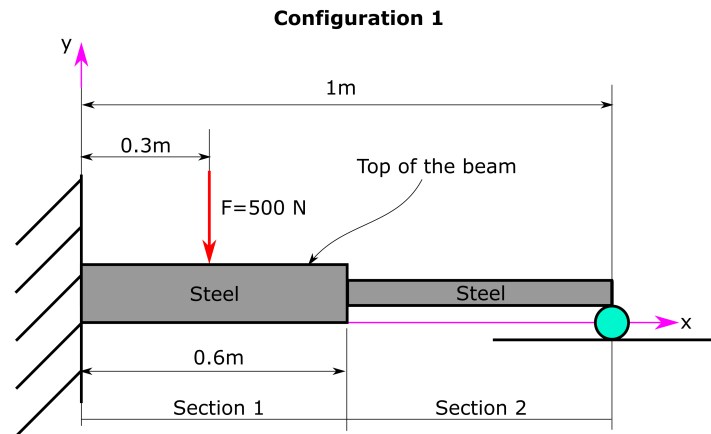

Figure 3
Consider the beam in Figure 3.
Configuration 1: (Figure 3)
- (g) For the beam shown in load configuration 1 in Figure 3, what is the third natural frequency if the material is changed to a material with a density of 3000kg/m^3 and a Young's modulus of $E = 150$ GPa? Return the answer in Hz correct up to at least 2 decimals. [3 marks]
¹Please refer to Figure 3 for a reference of "top of the beam".